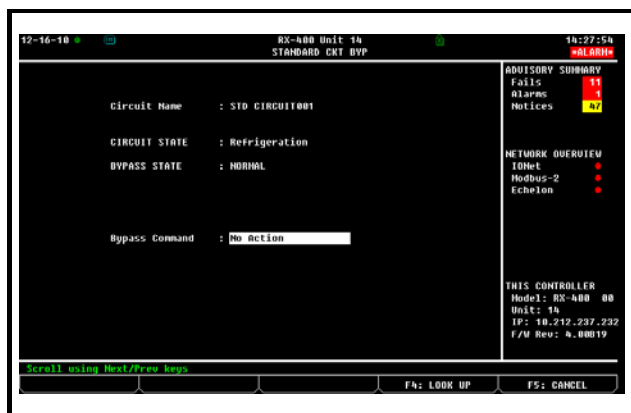

Figure 12-14 - Circuit Bypass Screen (RX-400 Version Shown)
- The Circuit Bypass screen (see Figure 12-14) will display the circuit name, its current state, and the bypass state. The **Bypass Command** field will be highlighted.